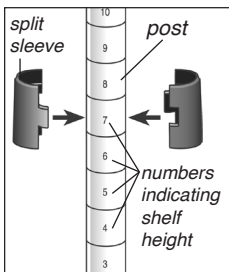

figure 1
- Referencing numbers on posts, snap plastic tapered split sleeves onto each post (for units with overshelves, two longest posts go in the back and two 33" in the front) at desired location of undershelf. The thicker part of the taper goes toward the bottom. Refer to *figures 1 and 2*. Make sure rib on split sleeve is seated into a groove on the post.